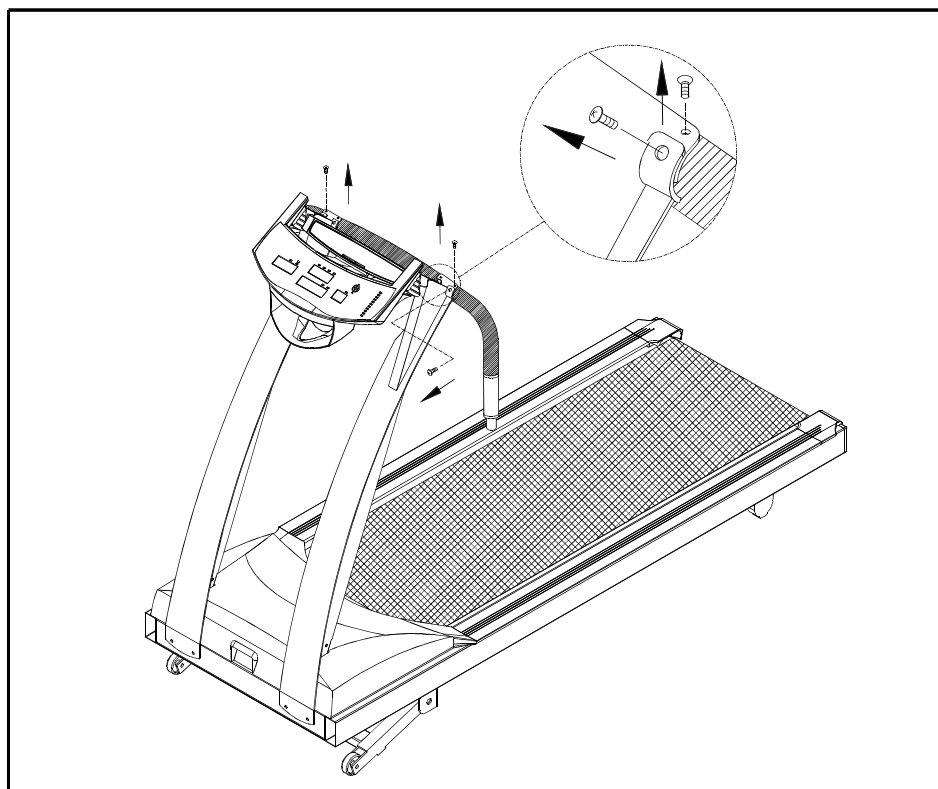

Fig.4
6. Loosen the screws of fixing the handlebar and remove the steel plate. (see Fig. 4)